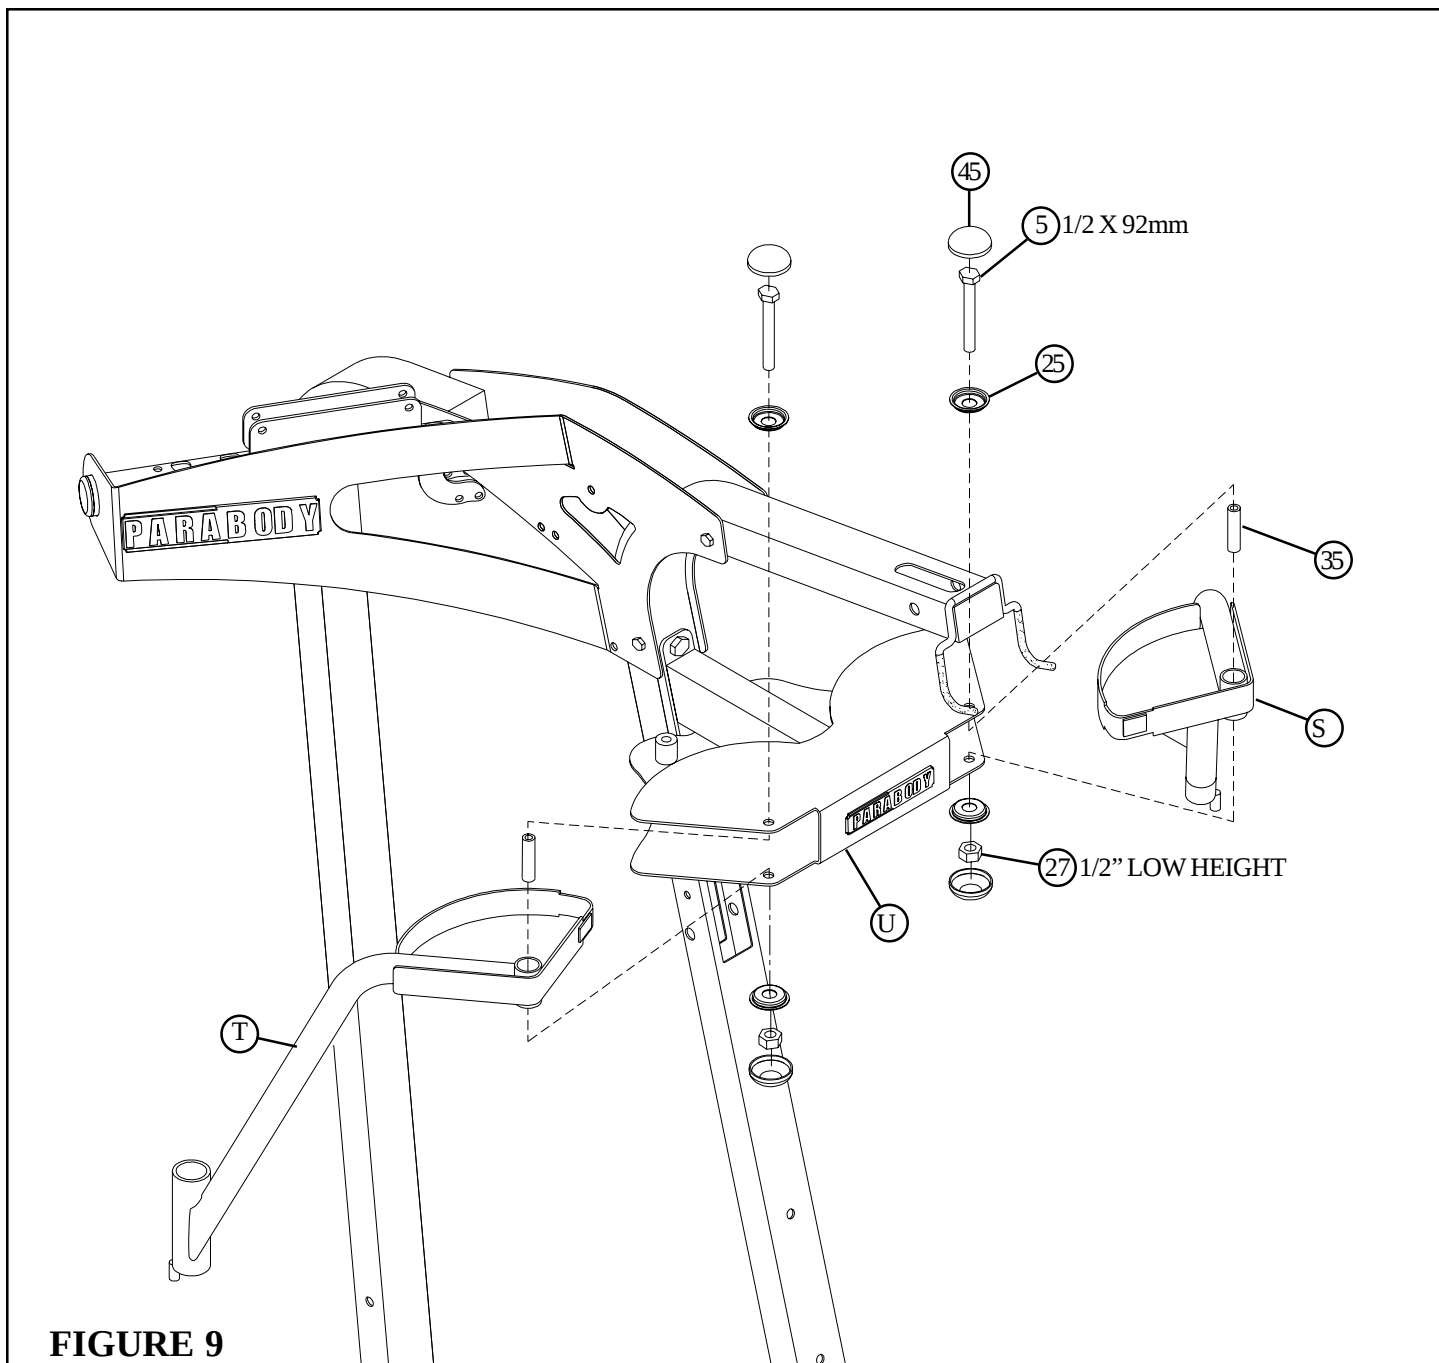

**FIGURE 8**
- **SECURELY** assemble the PEC FLY MOUNT (U) and BACKING PLATE (V) to the FRONT FRAME (E) using two 1/2 X 3" BOLTS (7) and two 1/2" LOCK NUTS (26) as shown in FIGURE 8.